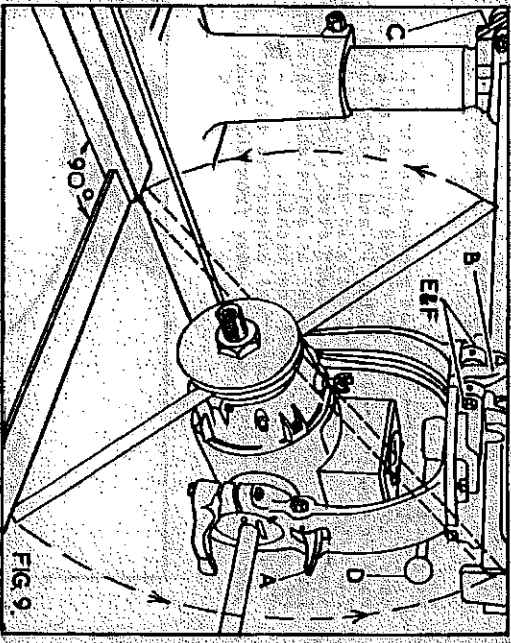
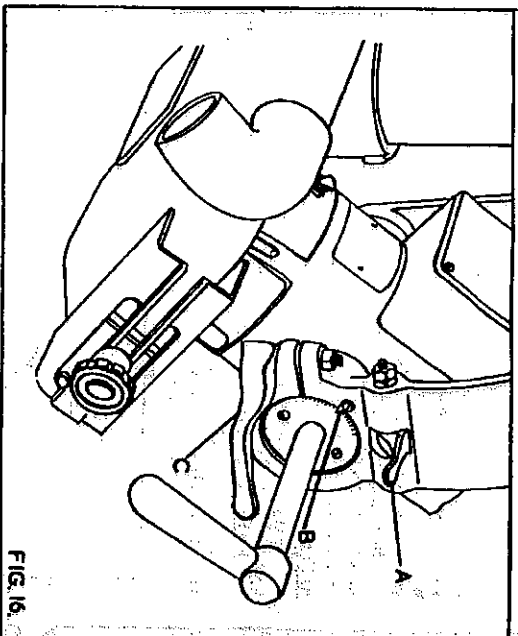

FIG. 9.
FIG 16.
2. Ensure the motor locating latch "A" in Fig. 9, the stirrup locating latch "B" and the carriage locking screw "C" in Fig. 16 is securely locked.
4. Lift arm locating latch "C" in Fig. 9 and swing arm to extreme ends of the table checking that clearance between rod and table remains constant.
To check this alignment place a steel rule or some other similar straight edge between the saw flanges as shown in Fig. 9 and a steel square against the fence. Rotate the steel rule from front to rear. If adjustment is necessary loosen stirrup locking handle "D", and disengage the stirrup locating latch "B", set correctly, then relock in position with lever "B". Adjust the serotight nuts "E" and hexagon locknuts "F" until the latch "B" locates accurately in the slot in the stirrup.
The motor swivels within the stirrup through 90°. The principle angles are located by a tapered latch "A" in Fig. 16. The angle of cant is clearly shown on a graduated scale by the pointer "B". The motor can be locked at any angle by the locking lever "C".